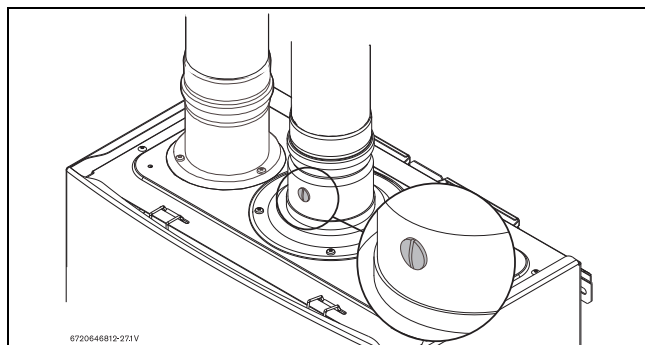

Fig. 63 Measuring port
- ▶ Remove brass flat head screw on the exhaust collar as seen in Fig. 63.